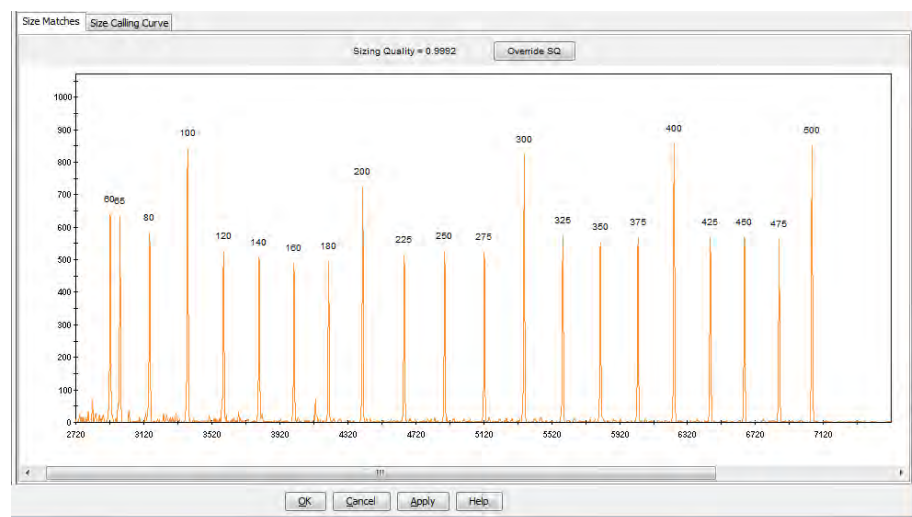

Figure 2. WEN ILS 500 Size standard. The peaks are labeled with their base pair size.
- 4.4.2 If the sizing standard is observed in the sample, check to see that all peaks are detected and the peaks are labeled correctly. The peaks should follow the pattern shown in Figure 2.
- 4.4.3 The sizing quality of the sample is shown directly above the labeled size matches electropherogram, as shown in Figure 2. Typically, a low sizing quality value (e.g., 0.5) is a result of a peak shift (the software
- 4.4.3.2 When the peaks are sized properly, check the sizing quality by selecting Tools>Check Sizing Quality. If the peaks are sized correctly, the quality value will improve. If the peaks are sized correctly but the quality score is still below passing, click the “Override SQ” button, as shown in Figure 2, to set the sizing quality to 1.0. Note that the sizing quality will now read <1.0> and a green check mark will appear in the Sample tab under the SQO (Sizing Quality Override) column to indicate the sizing quality has been overridden by the analyst. Alternatively, the sample may be re-injected at the analyst’s discretion.